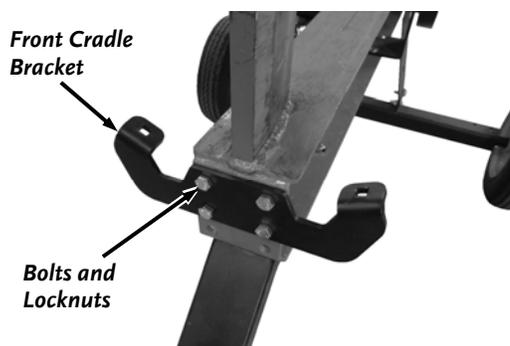

Figure 5
7. Install the front Cradle Bracket to the end of the Beam with four Bolts and Locknuts (from the cradle package) using two 9/16" Wrenches (**Figure 5**).